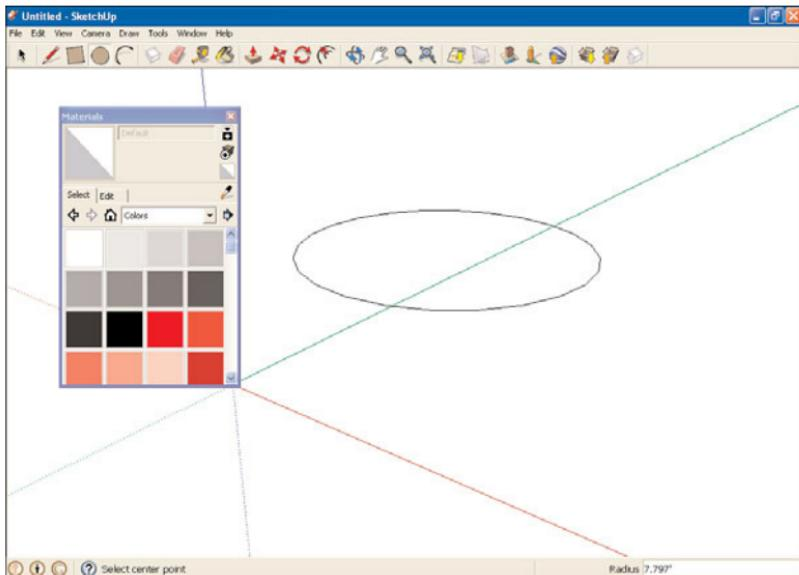

FIGURE 7.7 Plain colors.
5. Select the **Colors** texture collection from the textures drop-down list. The materials browser displays many colors, as you can see in Figure 7.7.